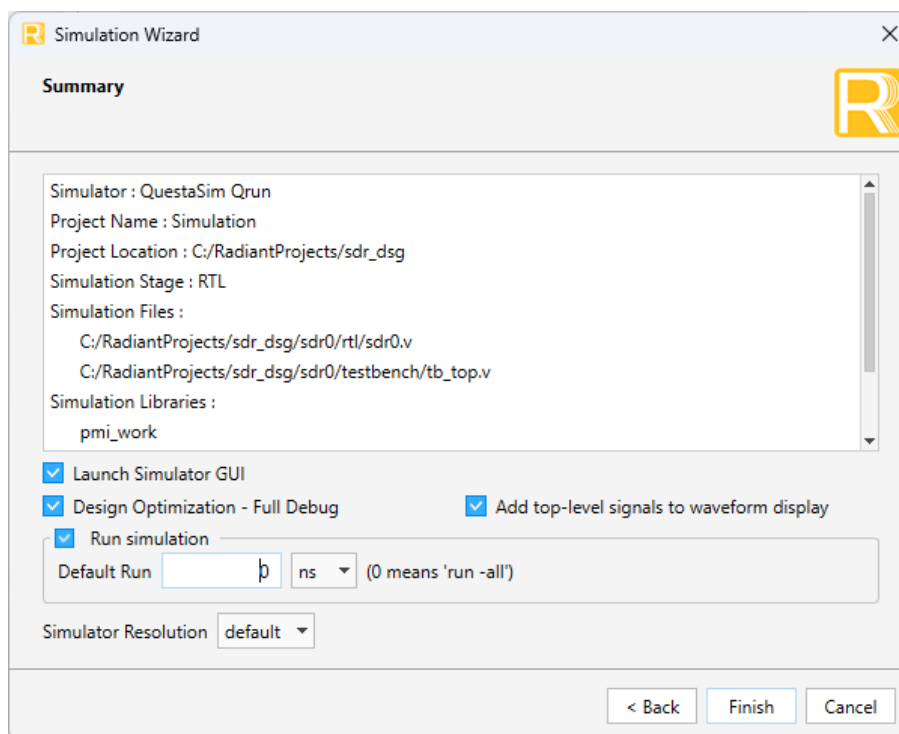

Figure 5.6. Simulation Wizard Window
- Click **Next**. The Summary window is shown in Figure 5.6. In the Summary window, set the Default Run to 0 to invoke run -all.